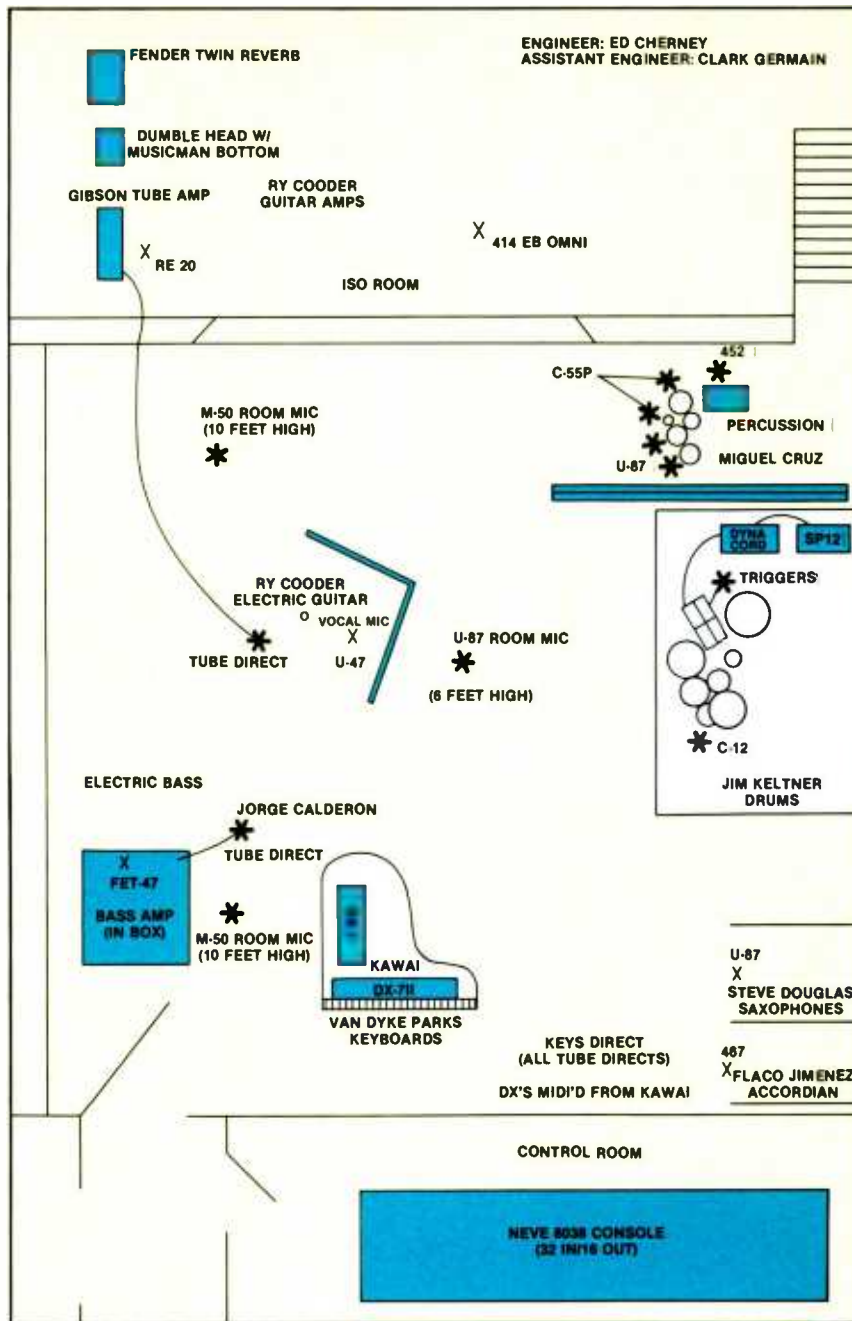

Figure 1. Studio layout for "Get Rhythm" sessions at Oceanway Studio 2, Los Angeles.
**EC:** You really don't know a lot of the time. For example, when we started the setup, he wasn't exactly sure what he wanted, and he hadn't made a record, other than movie composing, in a long while. We searched for the right setup (see Figure 1). We set up the drums on a platform, miced everything, got the bass